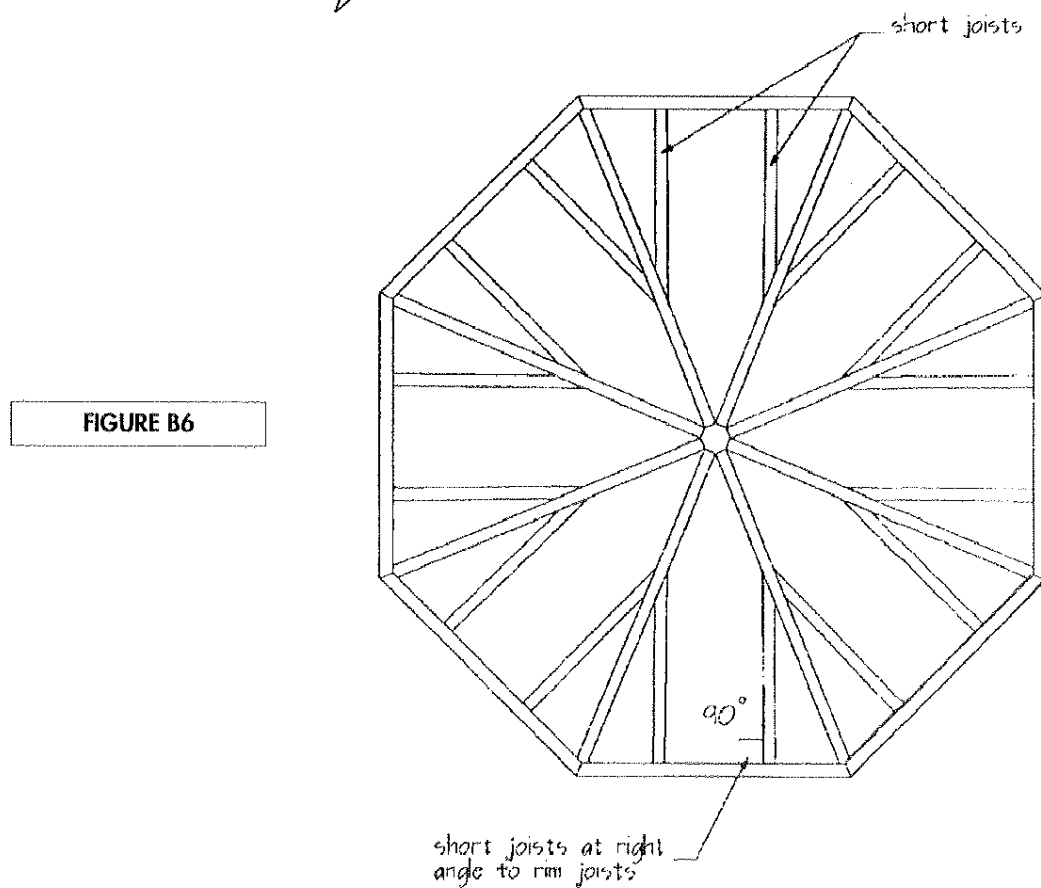

FIGURE B6
- Put the 16 short floor joists into place [see Figure B6]. Each short floor joists should be at right angles to the adjoining rim joist.